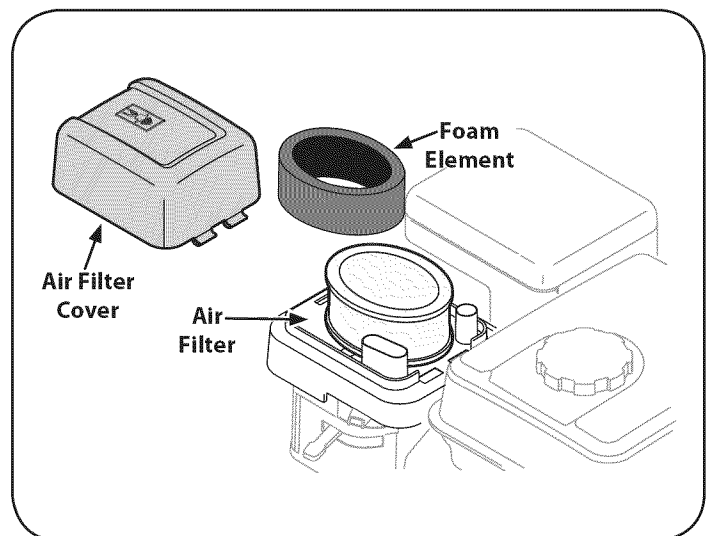

Figure 19
1. Press the tab on the air filter cover, lift the cover and remove the air filter. See Figure 19.